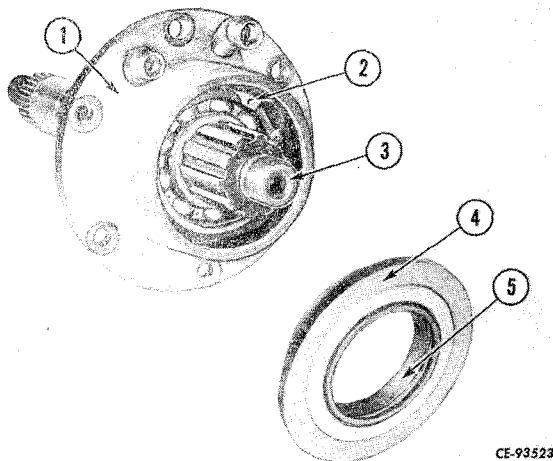

Figure 3-10
Use a soft drift to tap the seal retainer (4, Fig. 3-10) from the stator shaft hub (1). Remove the seal (5) from the retainer and discard seal.